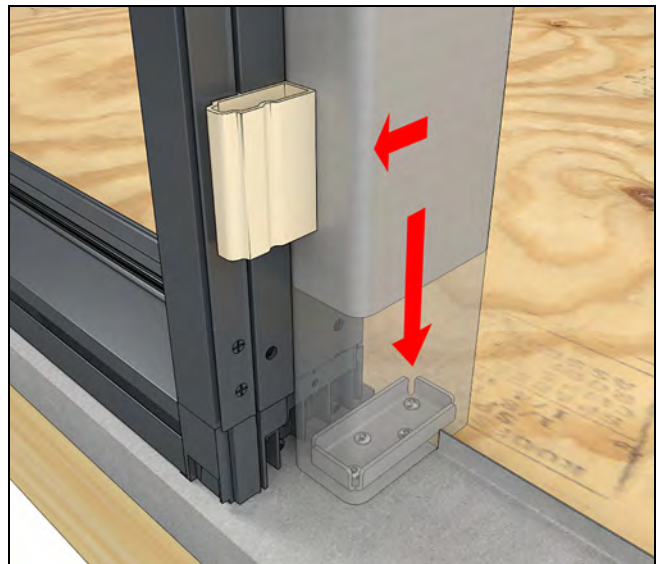

Figure 222
6. Fit the bottom of the tube steel over the flanges on the sill bracket and position the steel tight against the mull filler blocks. See Figure 222.